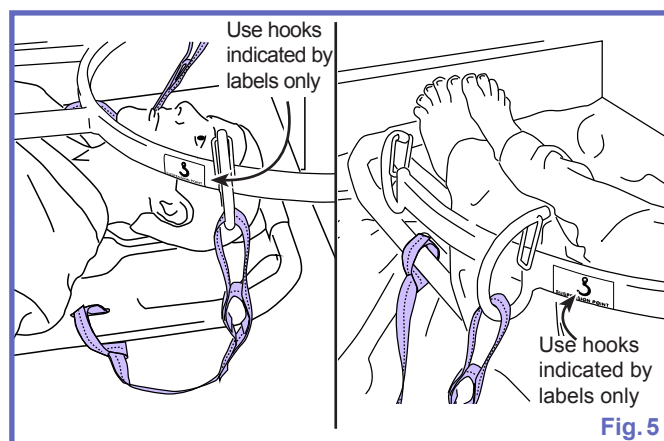

Fig. 5
- 5) Attach all the straps to the stretcher frame. Choose the loop to use (long or short) at head section and at foot section depending on patient's morphology. Most of the time long loops can be used everywhere. See Fig. 5.
**WARNING:** Use only the hooks identified by the “Suspension Point” labels (see Fig. 5), on the stretcher frame to attach the *Ferno Scoop EXL Stretcher* to the frame. Failure to follow these instructions may result in patient falls causing injuries.